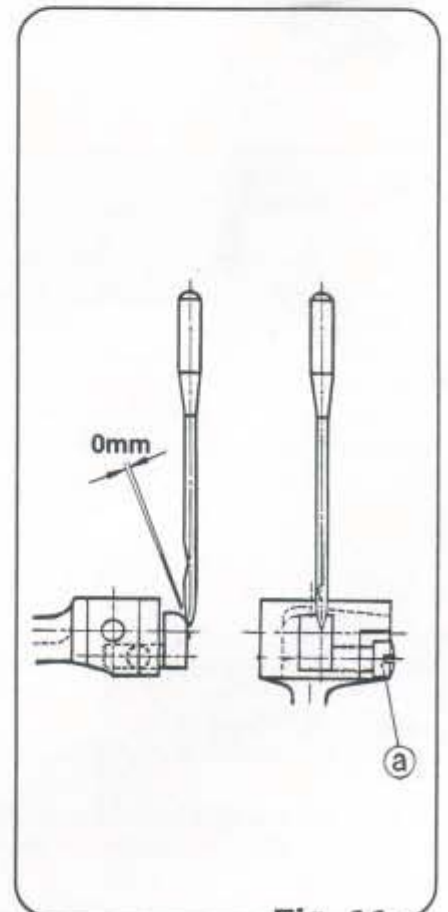

Fig. 11
When the stitch width is changed, the needle guide must be adjusted accordingly, as the clearance between the needle guide and the needle will change. Turn the pulley in the forward direction after loosening the screw (a) of Fig.11 and adjust the clearance between the needle and needle guide to zero when the end of the looper comes to the side of the needle, as shown in (Fig.11) and tighten the screw (a).
- \* 导针在最前进时,如图11所示,导针对针的间隔必须终于0mm,放松螺钉而调整.